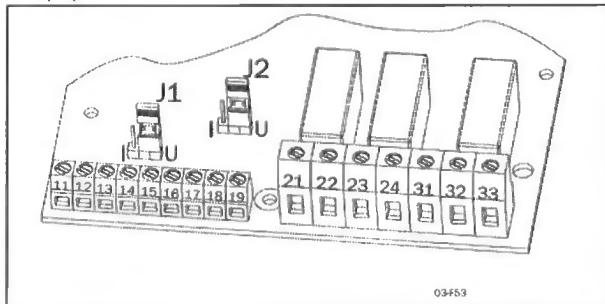

Fig. 38 Setting voltage or current for analogue input.
2. Set Jumper J1 on the PCB control card to voltage (U) or current control (I) signal position, see Fig. 38 and Fig. 24 on page 28. Factory setting is voltage (U).